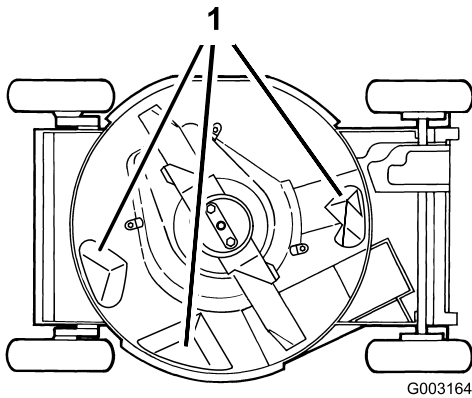

Figure 36
To ensure the best performance, keep the underside of the mower housing clean. Be especially careful to keep the kickers free of debris (Figure 36).
5. Remove 2 blade nuts, the anti-scalp cup, the accelerator, and the blade (Figure 36).